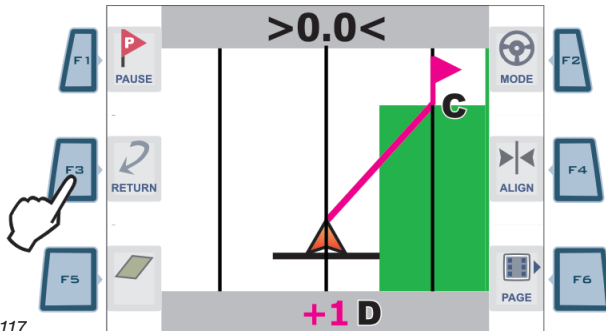

Fig. 117
Press **F3** to receive guidance information and go back to point of interest "Pause" (Fig. 117):
- A fuchsia line connecting the middle position to the flag shows the trajectory to be followed to get closer to marked point (**C** in Fig. 117).
- The display shows in fuchsia the number of tracks to be crossed before reaching point (**D** in Fig. 117):